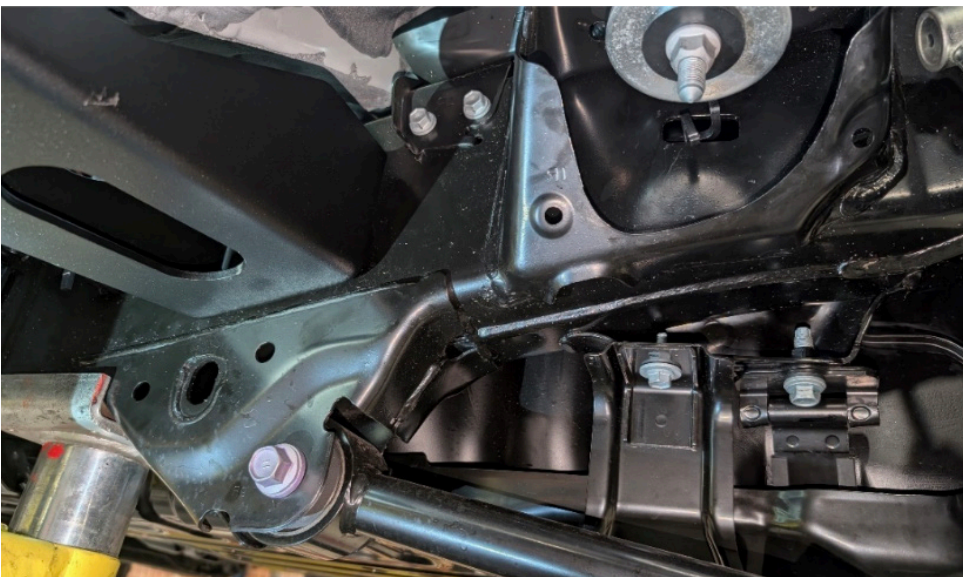

Figure 7
8. Lastly, move to the REAR mount on the driver side. Use the #3 etched nut plates through the frame hole in the rear body mount along with 2x 3/8" yellow zinc hex head cap screws with washers to fasten it in place. Place a dab of 242 Loctite on the end of each bolt. Figure 7.